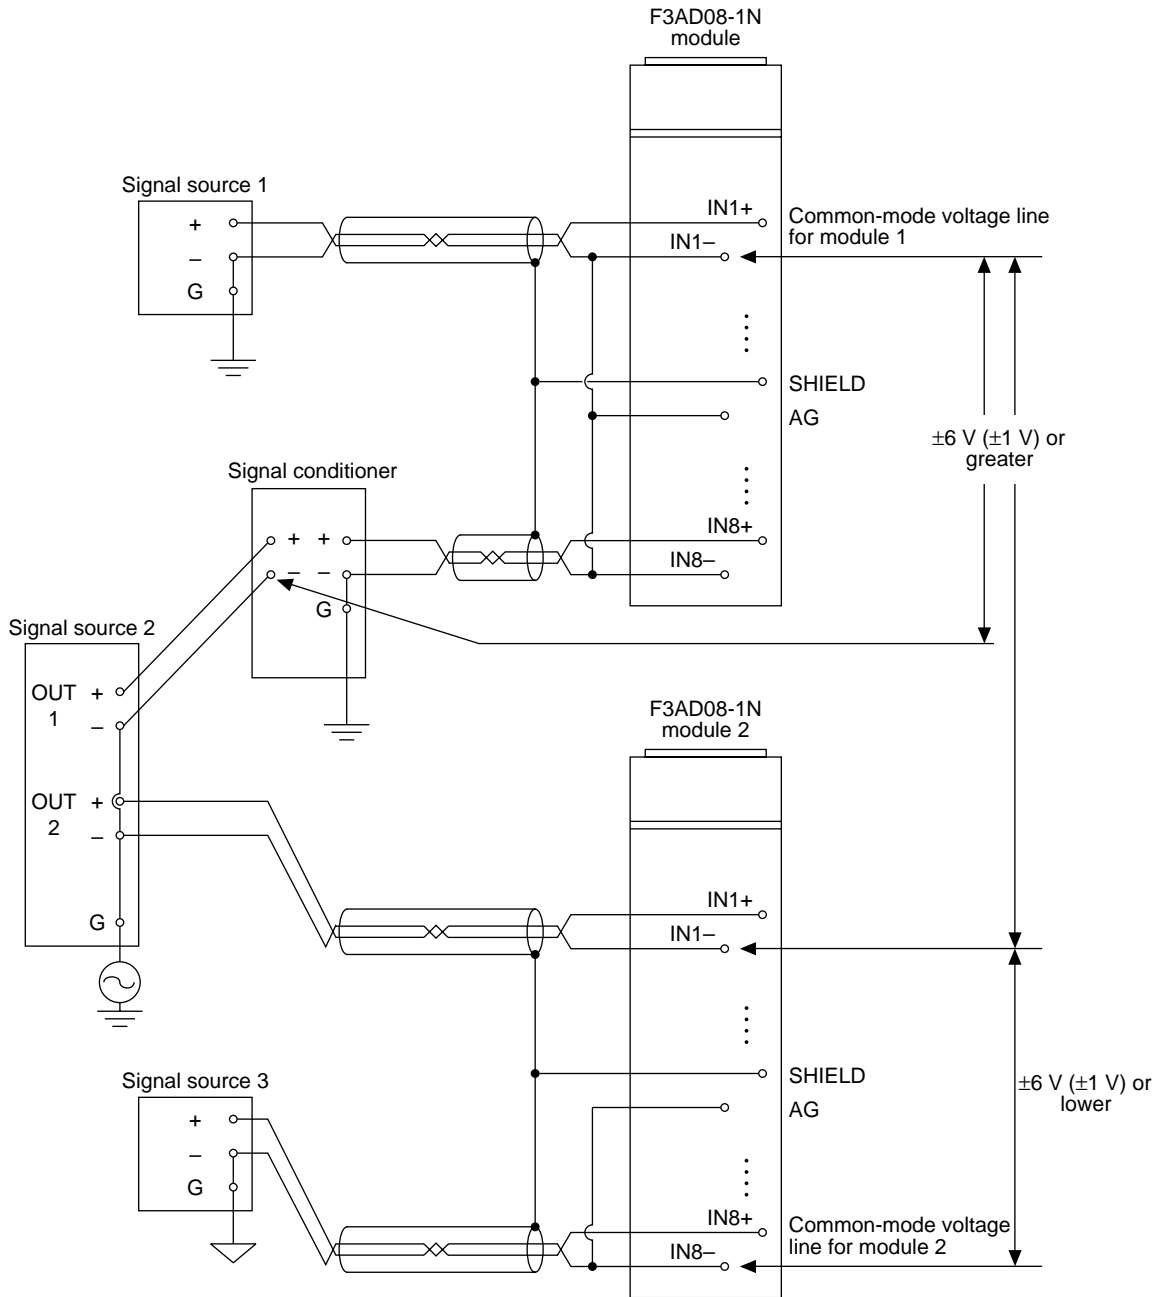

Figure 2.15 Wiring Diagram Where Common-Mode Voltage Is Over Specified Limits
- Use an insulated signal conditioner to lower the common-mode voltage within the limits specified. Then connect the signal source to the F3AD08-1N module as Figure 2.15 shows.